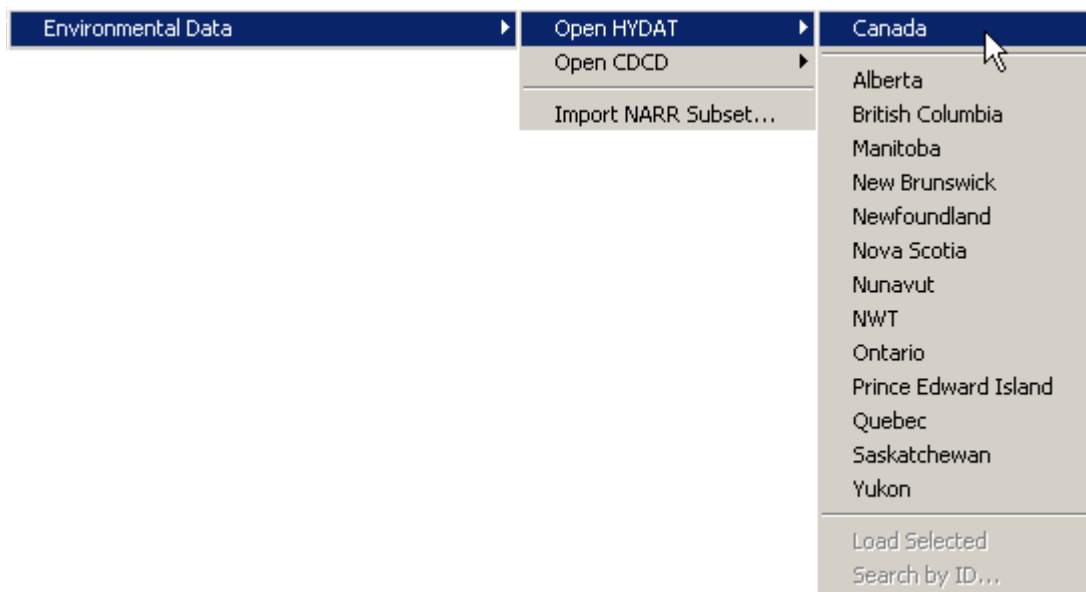

Figure 3.1: This menu is used to access the HYDAT database
2. The HYDAT stations can be accessed for all of Canada, or by individual province. Select one of the choices shown in Figure 3.1.